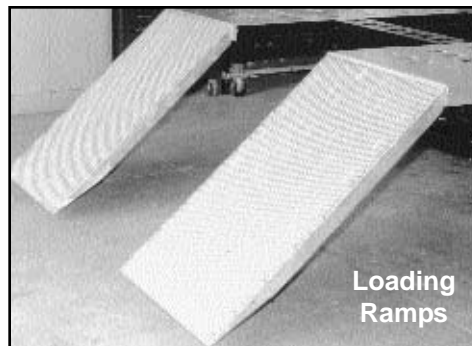

Figure 58
1. Install loading ramps (if not already installed) at end to be lowered. (See Figure 58.)